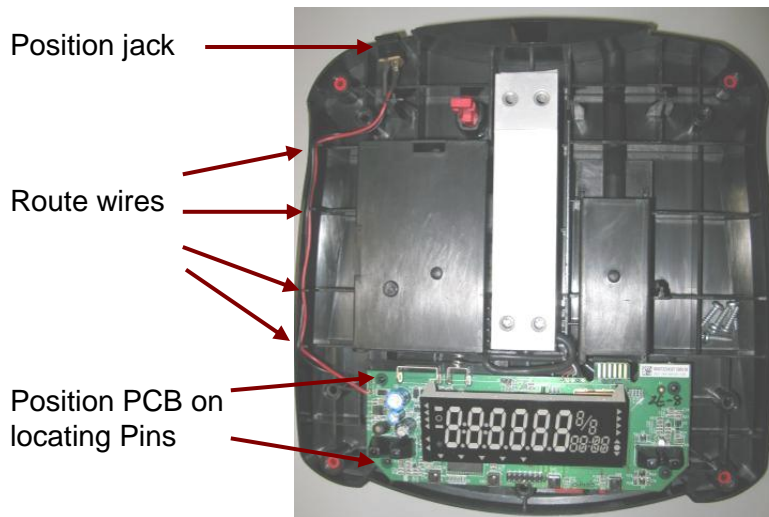

Figure 3-4 Position load cell, PCB and AC wires
2. NV models and the NVL20000 model require a load cell spacer to be positioned between the load cell and the Base. Position the load cell back into the lower housing. NVL and NVT models, place a lock washer then a flat washer on the load cell screws (NV models do not use the washers.). Turn the scale over to install the (2) load cell screws. Loosely tighten the screws so that the load cell can be aligned in the housing. While holding the load cell, fully tighten the screws. The screws should be tight enough so that the load cell does not move when pushed from the side. Verify that the load cell is centrally located between the ribs.
4. Slide the AC jack into its position in the lower housing. Route the AC adapter cable as shown in Figure 3-4.